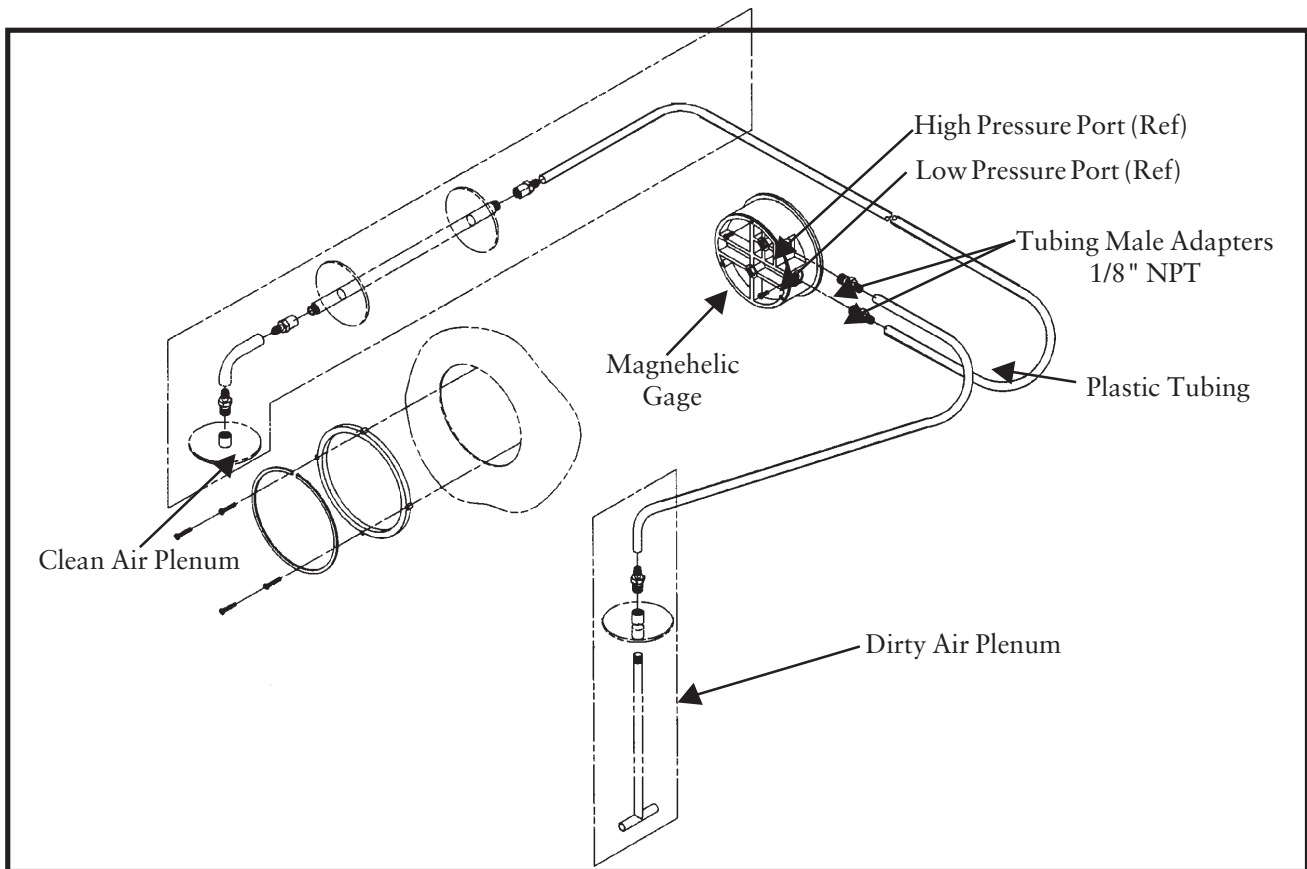
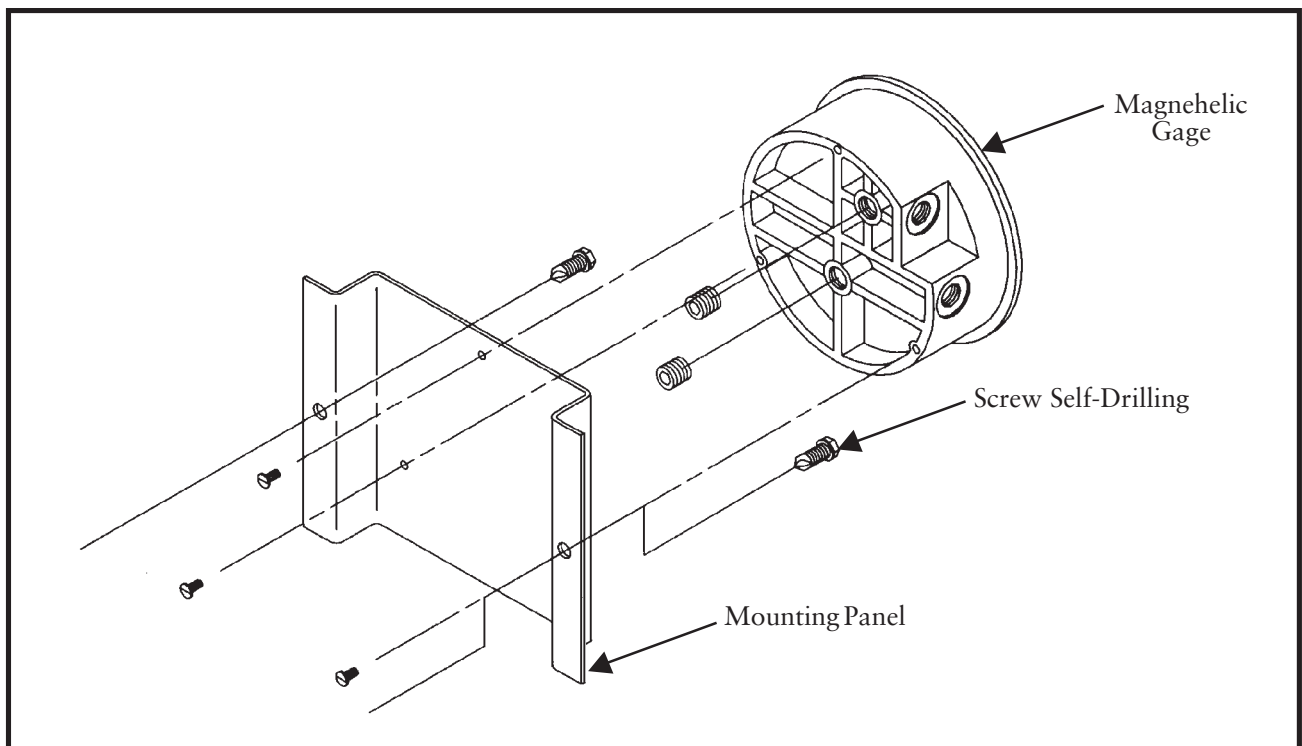

Figure 30
Figure 31
2.6.4 Magnehelic Gage (See Figure 30 Magnehelic Gage & Figure 31 Remote-Mounted Magnehelic Gage)
Mount the remote gages as shown in Figure 31 Remote-Mounted Magnehelic Gage. Make the connections as shown in Figure 30 Magnehelic Gage. The high pressure port is connected to the dirty air plenum. The low pressure port is connected to the clean air plenum. The high and low pressure connections are located in the electrical compartment of the collector. Use bulkhead fittings and mount them through the cabinet to the electrical compartment. Zero and maintain the gage per operating instructions.